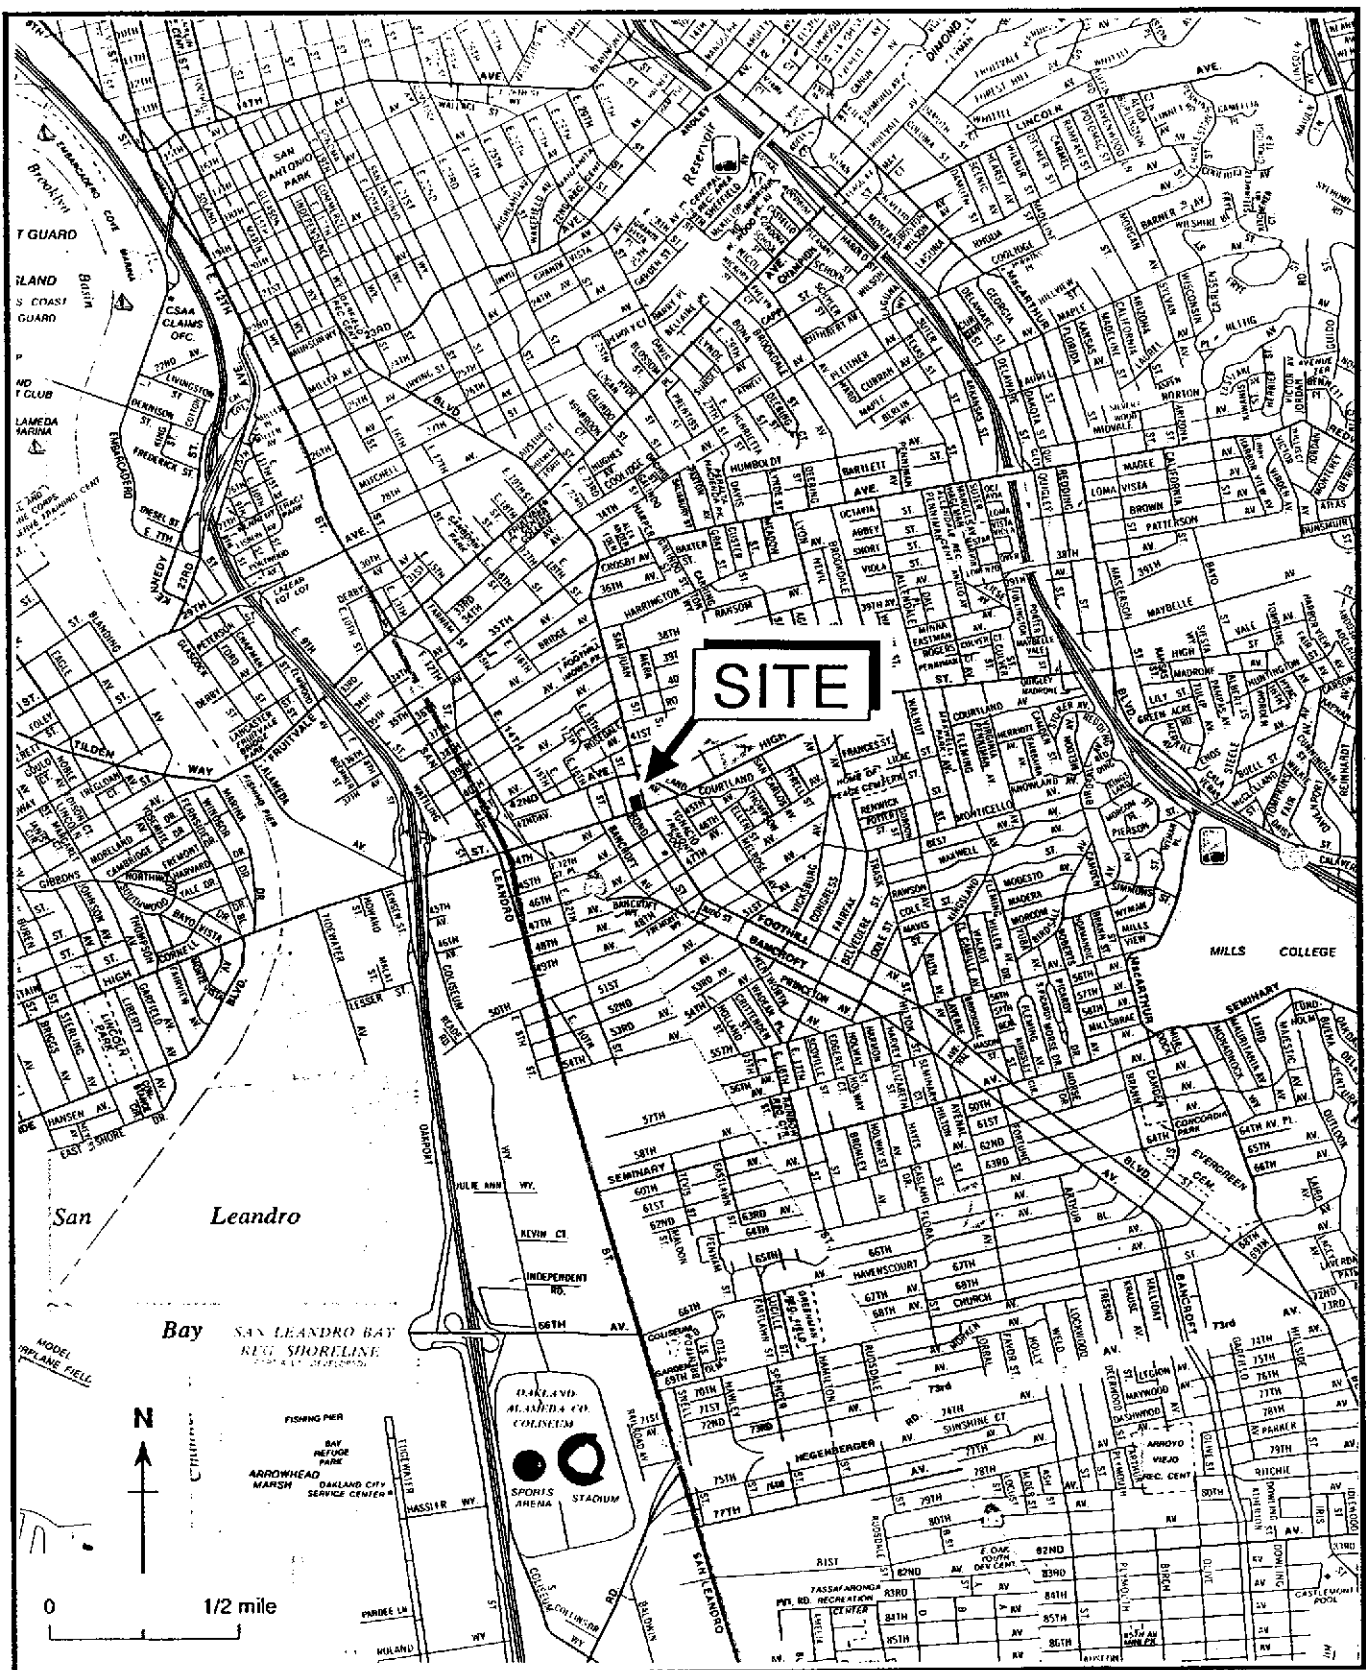
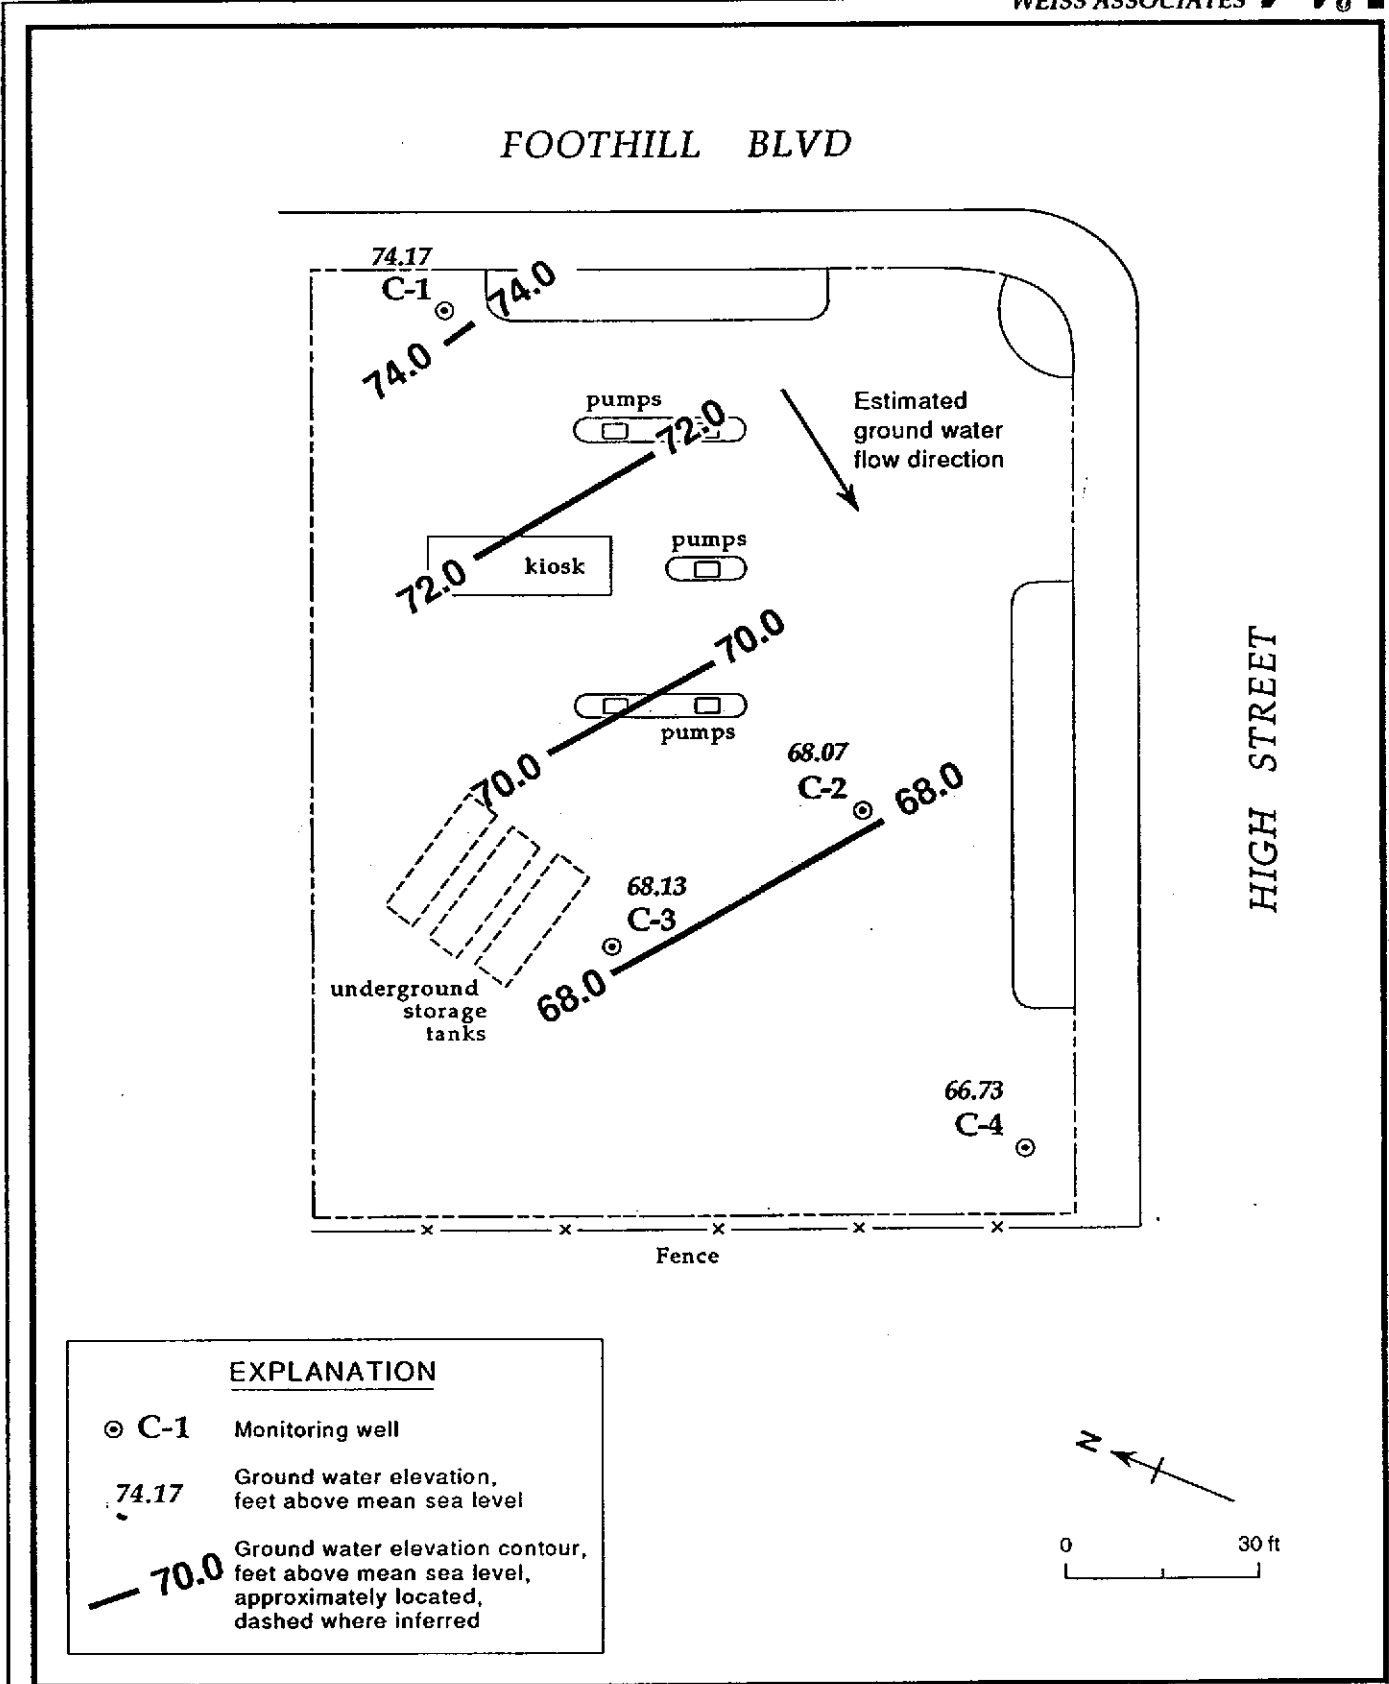

Figure 1. Site Location Map - Chevron Service Station #90076, Oakland, California
Figure 2. Monitoring Well Locations and Ground Water Elevation Contours - August 8, 1989 - Chevron Service Station #90076, Oakland, California
Weiss Associates (WA) collected ground water samples from three monitoring wells on August 8, 1989 as part of the quarterly ground water monitoring program at Chevron Service Station #90076 in Oakland, California (Figure 1). Monitoring well C-2 (Figure 2) was not sampled because it contained approximately 1/8-inch feet of free-floating product. Ground water samples from monitoring wells C-1, C-3, and C-4 contained benzene above the California Department of Health Services (DHS) maximum contaminant level (MCL) for drinking water. Ground water samples from monitoring well C-4 also contained toluene above the DHS recommended action level for drinking water.
Water levels for all monitoring wells were measured on August 8, 1989. Ground water elevations are presented in Table 1, and ground water elevation contours are plotted on Figure 2. The gradient appears unusually steep, with a ground water elevation difference of about 7.5 feet across the site. Ground water elevations appear to have fluctuated by as much as 4 feet historically. Such a steep gradient and large fluctuations in ground water levels could suggest intermittent discharge or pumping.